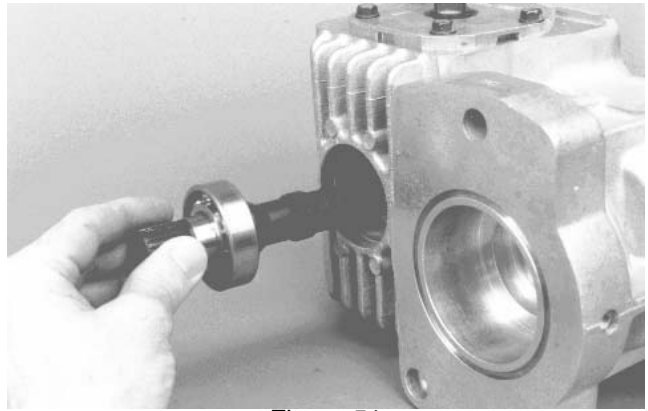

Figure 51
15. Slide pump shaft and bearing assembly from housing. Press shaft out of bearing (Fig. 51).